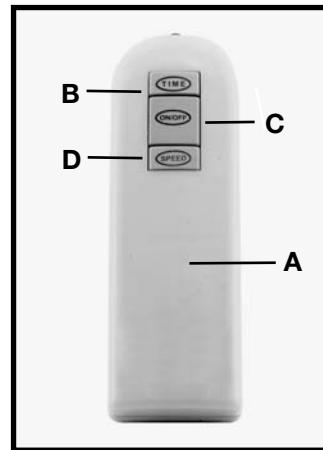
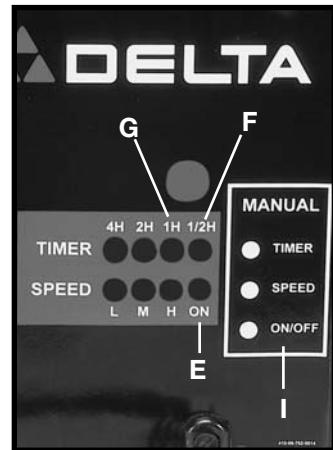

Fig. 8A
Fig. 8B
The Air Cleaner is equipped with a REMOTE CONTROL (A) Fig.8A. **NOTE:** The remote requires two (2) AAA batteries (not supplied). Battery housing is located underneath the back cover.
Notice that the remote control has three control buttons (Fig. 8A): TIME (B), ON/OFF (C), and SPEED (D). These buttons correspond to the LED sensor panel on the rear of the machine (I) Fig. 10B. **NOTE: When the machine is connected to the power source, a green light (E) will be activated on the panel.**
To activate the blower unit, press the “ON/OFF” button (C) Fig. 8A. The machine will begin in the default speed of Low or “L” on the sensor panel. Press the SPEED button once, and the machine will run at the high (or “H”) level. Press the SPEED button again, and the machine will run at the medium speed (or “M”). Press the SPEED button a third time, and the machine will return to the Low Speed mode.
To turn the machine off, press the “ON/OFF” button (C) Fig. 8A.
When the TIME button (B) Fig. 8A is pressed on the remote control, the machine will run for 1/2 hour. (An LED light will show up on the sensor panel (F) Fig. 8B). Pressing the TIME button again will set the machine to run for one hour. Notice that the light on the sensor panel has now moved to the 1H location (G) Fig. 10B. When the TIME button is pressed a third time, the machine will run for 90 minutes. At this point, two lights will appear - one under the 1H location (G) and one under the 1/2H location (F) indicating an hour and a half. Continue this process for up to 7 1/2 hours of run time.
All of these functions can be manually controlled by using the buttons on the sensor panel (I) Fig. 8B.